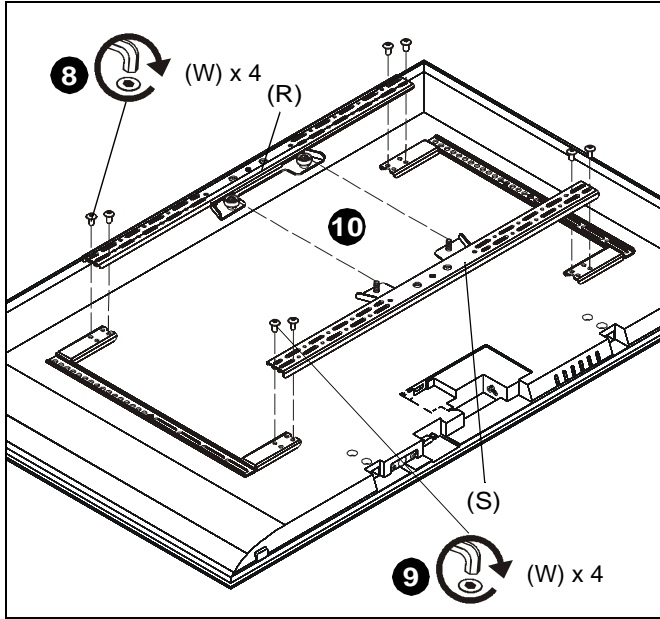

Figure 17
9. Connect bottom interface support (S) to uprights (P and Q) using four #10-24 x 3/8" button head cap screws (W). (See Figure 17)
10. When connecting bottom interface support (S) to uprights, make sure that it is aligned vertically with top interface support (R). (See Figure 17)
8. Connect top interface support (R) to uprights (P and Q) using four #10-24 x 3/8" button head cap screws (W). (See Figure 17)